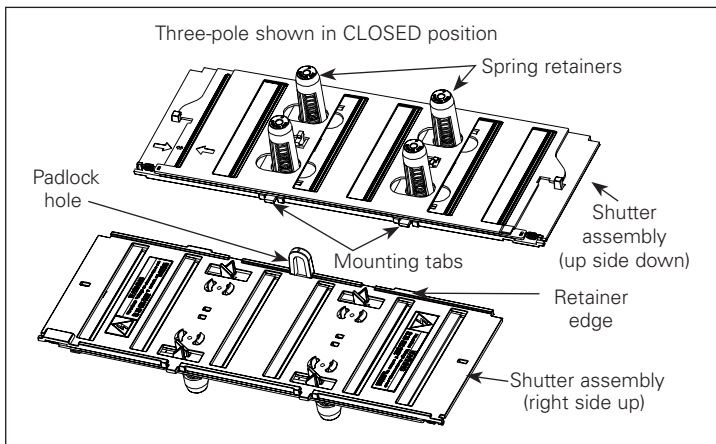

Figure 2. Shutter assemblies.
A complete drawout cassette shutter installation is comprised of two duplicate, already assembled, shutter assemblies (Figure 2). Become familiar with the shutter assemblies provided.
Step 1: Note two mounting tabs located on the shutter assembly opposite the padlock hole and the shutter retainer on the opposite side (Figure 2).